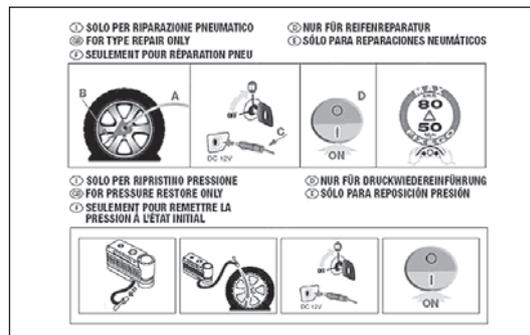

fig. 151
- instruction brochure (see fig. 151), to be used for prompt and proper use of the quick repair kit and then presented to the personnel charged with handling the treated tyre;